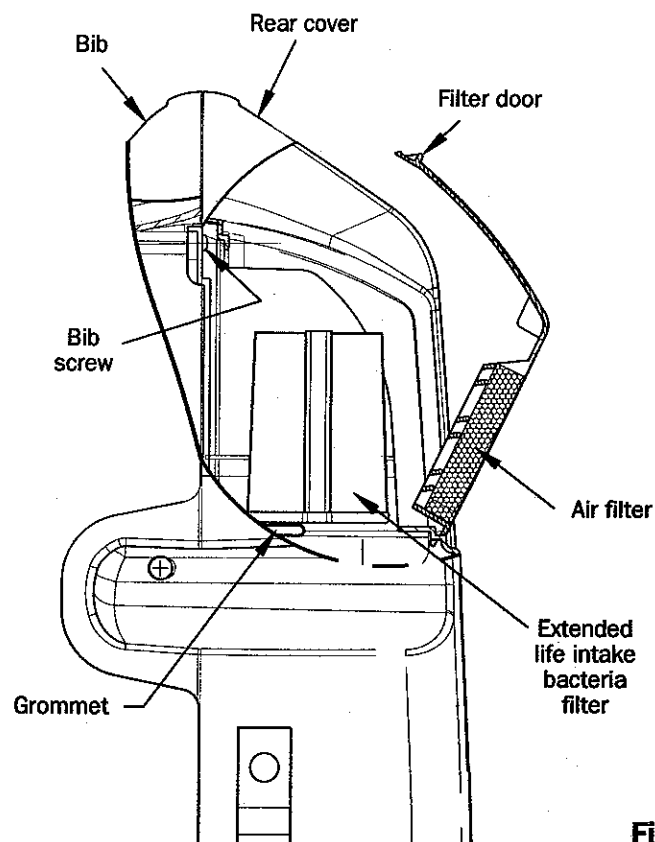

Figure 13
2. Pull the extended life filter out from the rubber grommet (Figure 13) and discard.